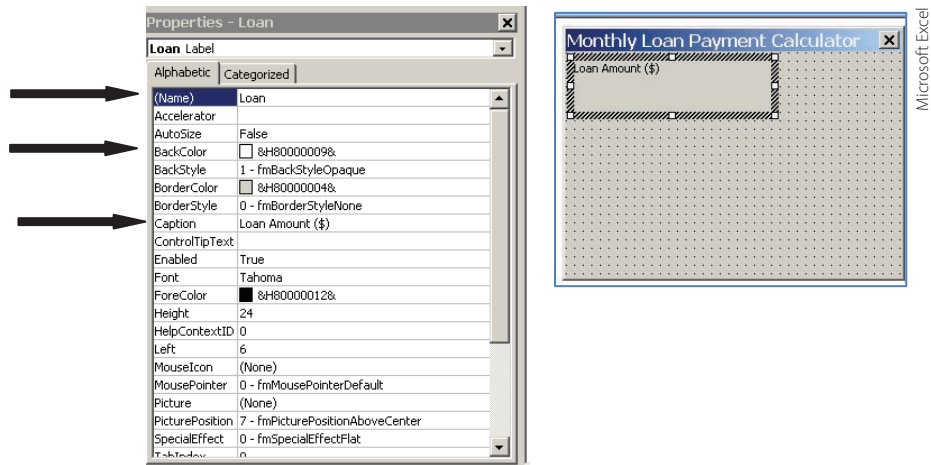

FIGURE 14.62
7. In the Properties window shown in Figure 14.62(a), under **Alphabetic** and (Name), assign a name such as Loan. This is the name for the label. Notice no space is allowed in the Name field.
8. In the Properties window, under **Alphabetic** and Caption, assign a name such as Loan Amount (\$). This is the name of the label box [Figure 14.62(b)]. Notice spaces are allowed in the box name.